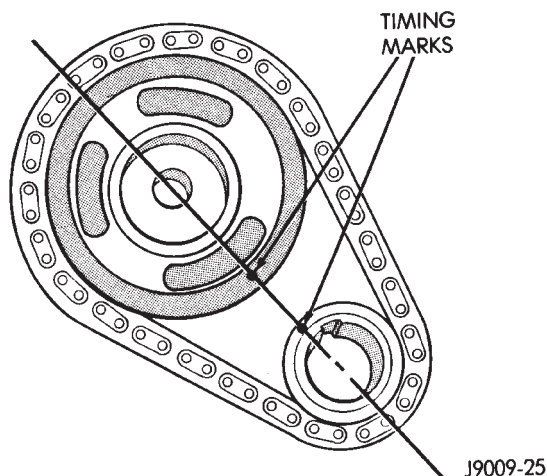
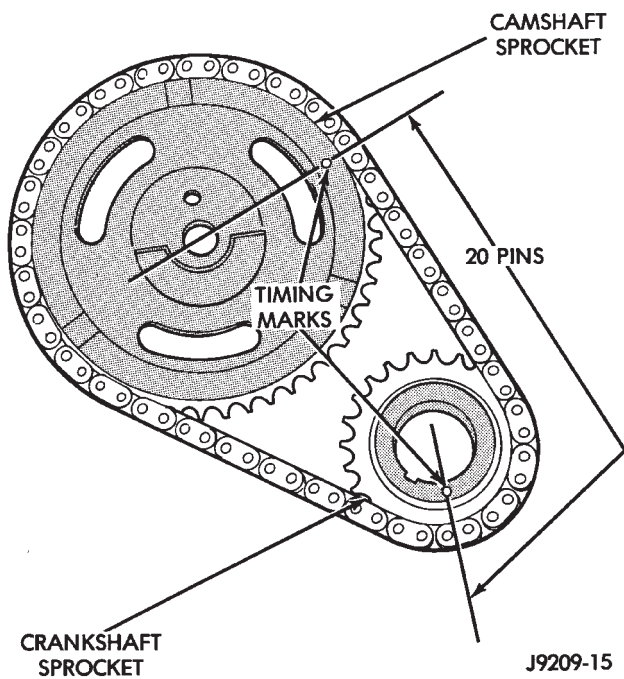

Fig. 6 Crankshaft/Camshaft Alignment
Fig. 9 Verify Sprocket/Chain Installation
- (1) Disconnect negative cable from battery.
- (2) Remove the fan and shroud.
- (3) Remove the serpentine drive belt.
- (4) Remove the crankshaft vibration damper.
- (5) Remove the timing case cover.
- (6) Rotate crankshaft until the "0" timing mark is closest to and on the center line with camshaft sprocket timing mark (Fig. 6).
(3) Apply Mopar Silicone Rubber Adhesive Sealant to the keyway in the crankshaft and insert the key. With the key in the crankshaft keyway, install the crankshaft/camshaft sprockets and timing chain. Ensure the timing marks on the sprockets are properly aligned (Fig. 6).
(4) Install the camshaft sprocket retaining bolt and washer. Tighten the bolt to 108 N·m (80 ft. lbs.) torque.
(5) To verify correct installation of the timing chain, turn the crankshaft to position the camshaft sprocket timing mark as shown in Fig. 9. Count the number of chain pins between the timing marks of both sprockets. There must be 20 pins.